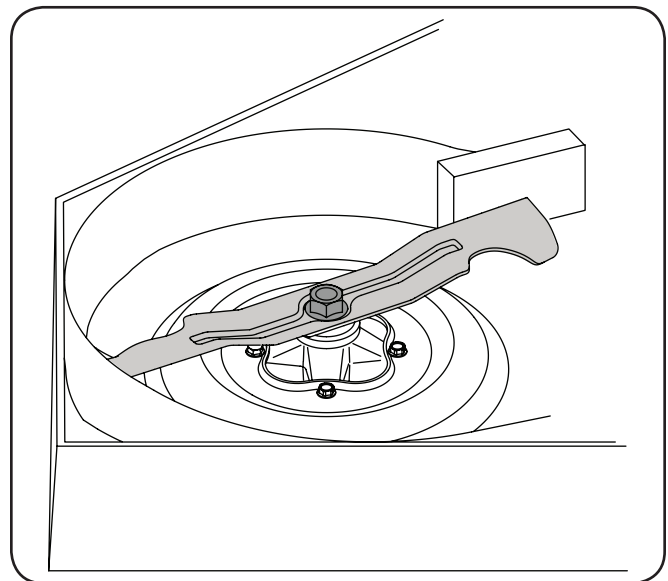

Figure 7-10
2. Use a $1\frac{5}{16}$ " wrench to hold the hex nut on top of the spindle assembly when loosening the hex nut securing the blade. A block of wood may be placed between the deck housing and the cutting edge of the blade to help in breaking loose the hex nut securing the blade. See Figure 7-10.